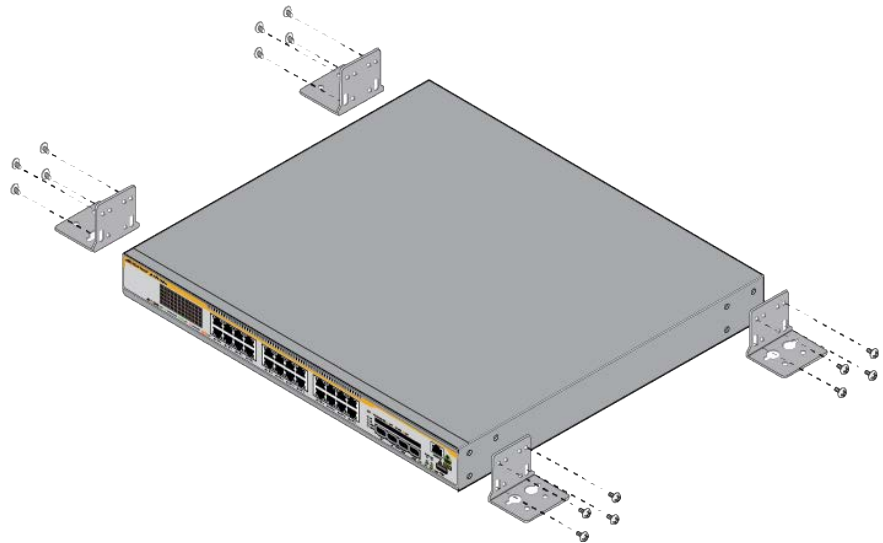
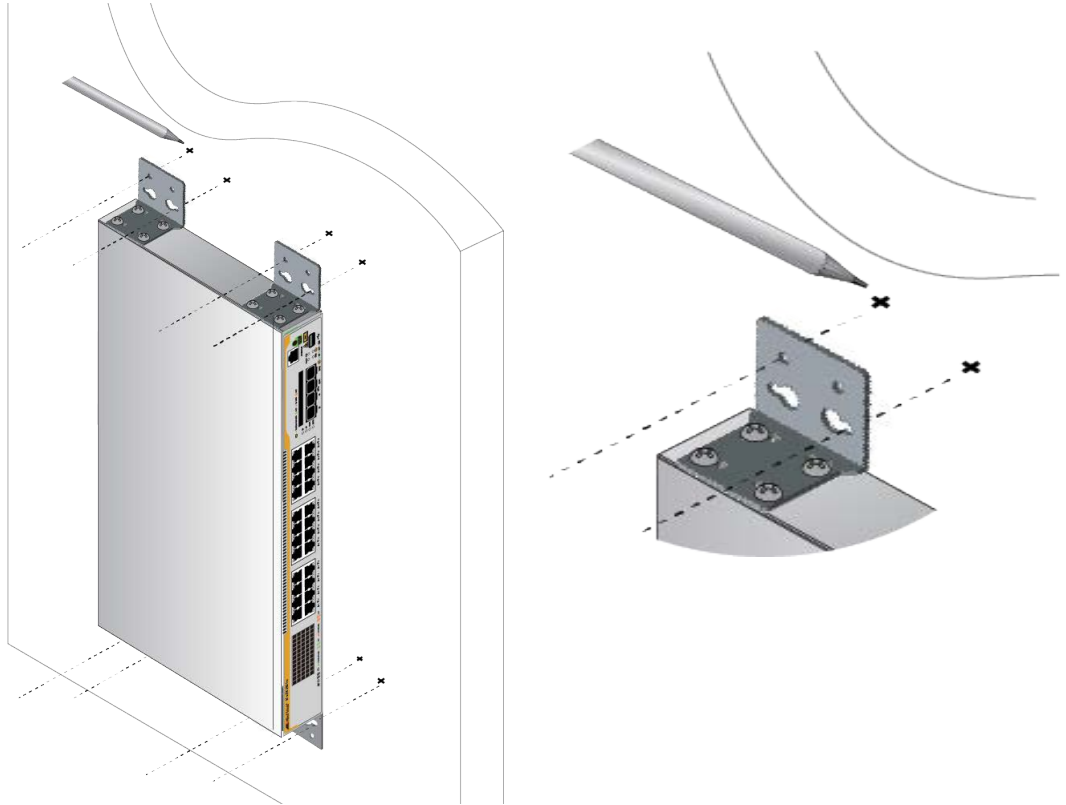

Figure 26. Installing the BRKT-J24 Brackets to the x540L-28XTm Switch
Figure 27. Marking the Holes on the Wall
For the key-hole slots, mark the smaller holes of the slots. See Figure 27.
2. Install the four brackets with sixteen screws that come with the BRKT-J24 brackets to the sides of the switch, as shown in Figure 26 on page 65 and Figure 27 on page 66.